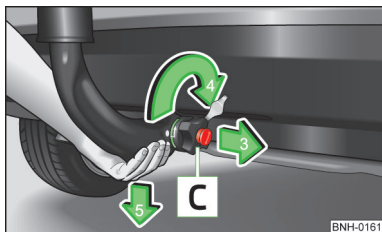

Fig. 12 Release ball bar
- Grip the ball bar from below » Fig. 12 and with the other hand pull the handwheel **C** in arrow direction 3.